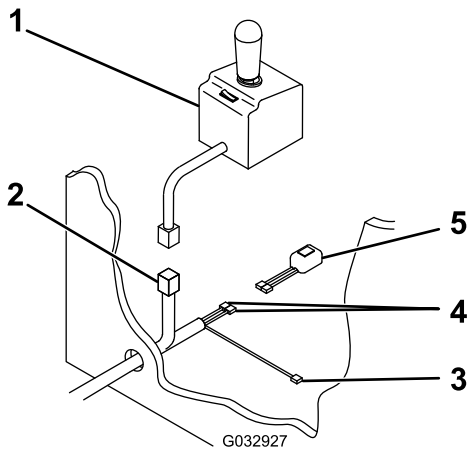

Figure 19
11. Pull the plow controller connector, black/red wire, and 2 black wires into the vehicle cab through the hole in the firewall (Figure 19).
12. Connect the 2 black wires to the headlight toggle switch (Figure 19).